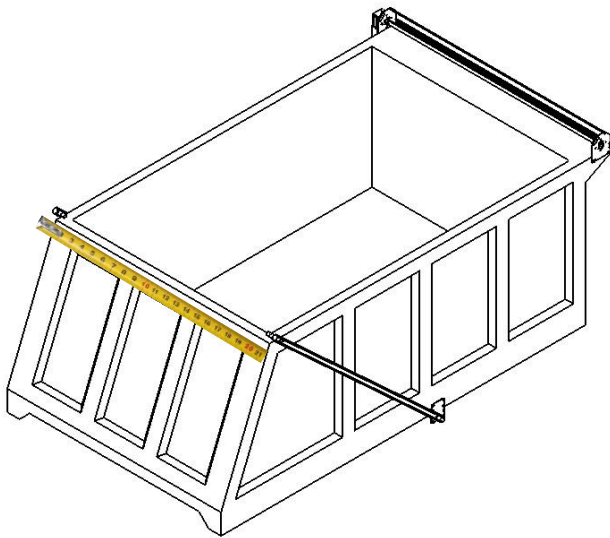

Figure 4.3
In the free ends of the side arms insert the 90-degree bulletproof corners (1). Measure the distance between these corners and verify that the length of the cross-tube is the same. If the cross-tube is too long cut it down to size. (Figure 4.3)